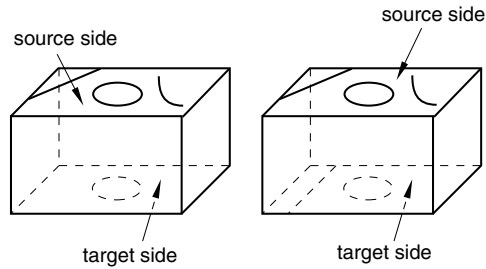

Figure 17-72 Only the region on the left can be meshed using the swept meshing technique.
- The target side must contain only a single face without isolated edges or isolated vertices. For example, the region on the left in Figure 17-72 can be meshed using the swept meshing technique because all of the isolated edges are on the source side; the region on the right, however, cannot be meshed using this technique because the target side contains two faces.